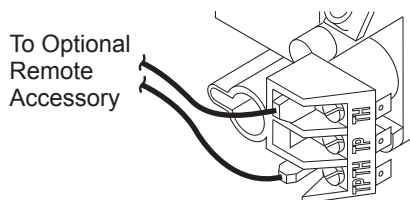

Figure 38 - Control Valve Terminals
5. Connect wires from receiver to TH and TPTH to control valve (see Figure 38).